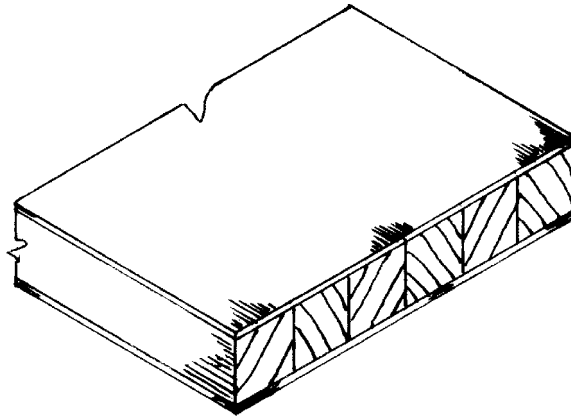

Fig.14
40. State the type of manufactured board shown in figure 14.